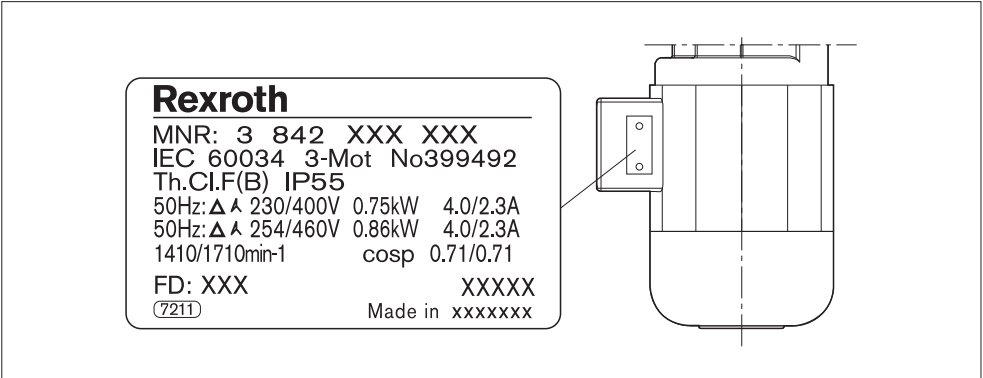

Fig. 24: Motor nameplate (example)
- Observe the electrical connector information on the motor nameplate, see Fig. 24 on page 47.